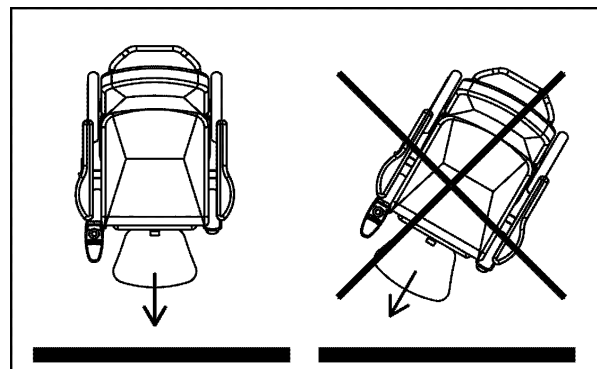

Figure 3.10
1. Drive straight up to the kerb (fig. 3.10).